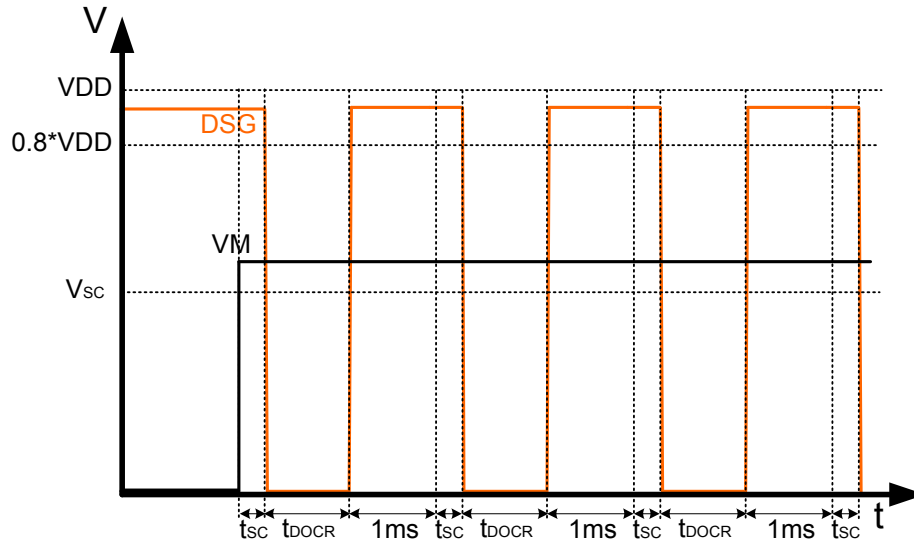

Fig 5-1. Discharging over-current release
**Note6:** When SH366303 is in discharging over-current status, SH366303 will turn on the internal pull-down resistance and pull VM pin down to GND, in order to judge whether the outside load is removed. After the status in which DSG pin returns high after  $t_{DOCR}$ , system won't detect discharging over-current within 1ms, so DSG pin keeps high among this period (refer to Fig 5-1).